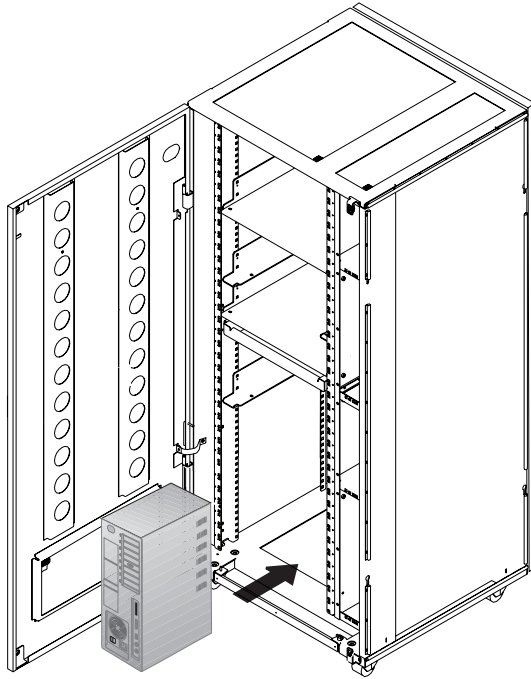

Figure 1-53. Installing the Service Processor Unit in the Controller Expansion (Rear Side)
14. ____ If installed, remove the floor stand and slide the service processor unit as shown in Figure 1-53.